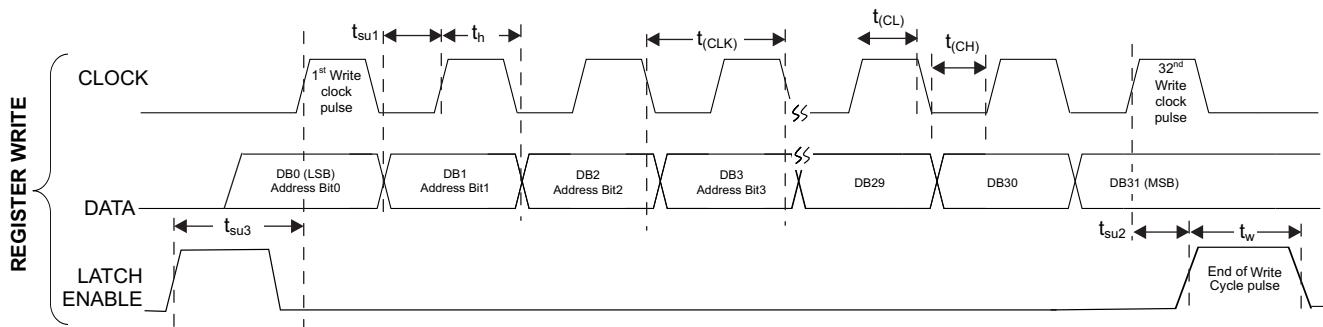

Figure 130. 4WI Writing Timing Diagram
The TRF3722 features a four-wire serial programming interface (4WI) that controls an internal 32-bit shift register with seven parallel registers. There are total of three signals that must be applied: the clock (CLK), the serial data (DATA), and the latch enable (LE). The fourth signal is the read back (RDBK) signal. The serial data (DB0–DB31) are loaded least significant bit (LSB) first, and read on the rising edge of the CLK. LE is asynchronous to the CLK signal; at its rising edge, the data in the shift register are loaded into the selected internal register. Figure 130 shows the timing diagram for the 4WI. Table 1 lists the 4WI timing for the write operation.